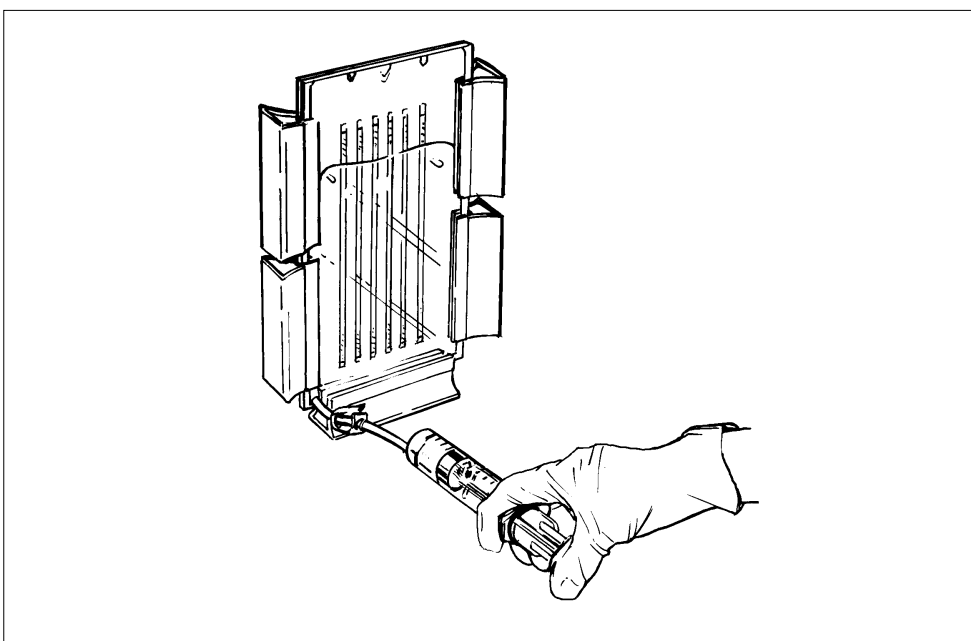

Fig. 5.
- Fill the cassette to the top with rehydration solution, close the pinchcock on the tubing and cover the top with Parafilm* (Fig. 5).